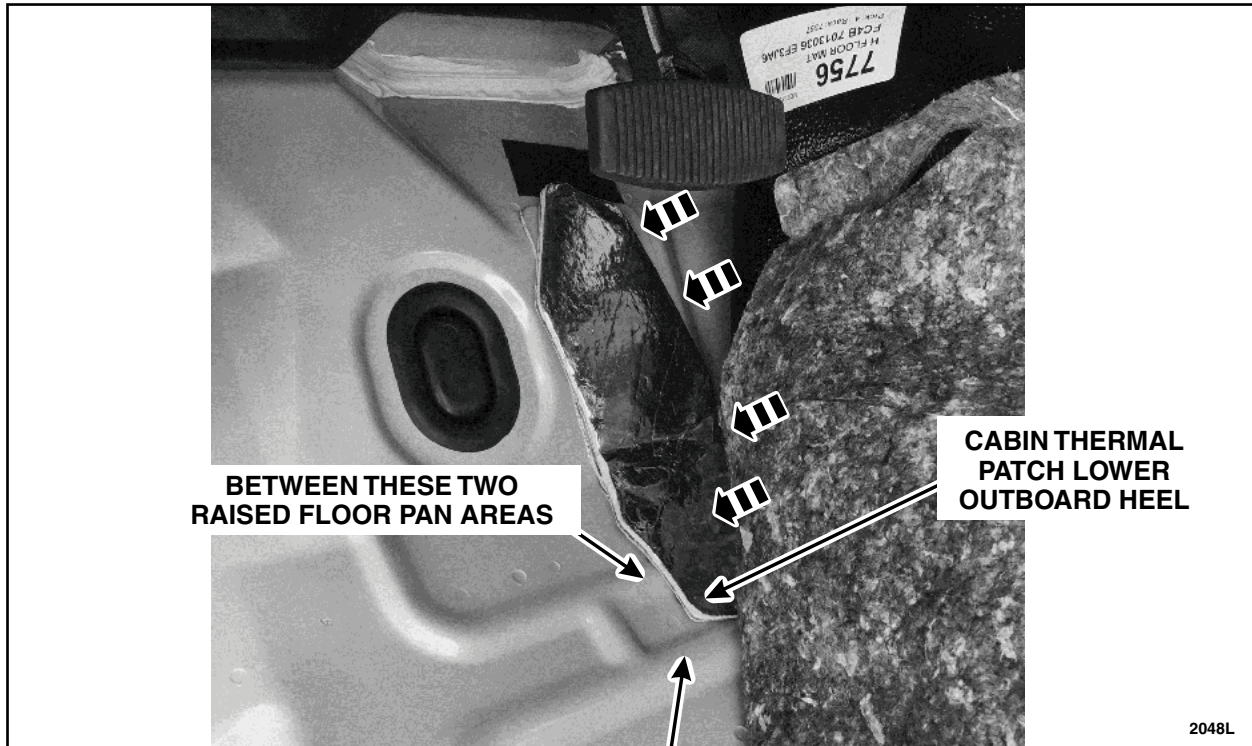

FIGURE 4
5. Peel the protective backing cover from the *new* cabin floor thermal patch and install it over the highlighted area in Figure 3. Start at the bottom, sticky side down, and align the lower outboard heel of the thermal patch so that it sets between the areas indicated in Figure 4.